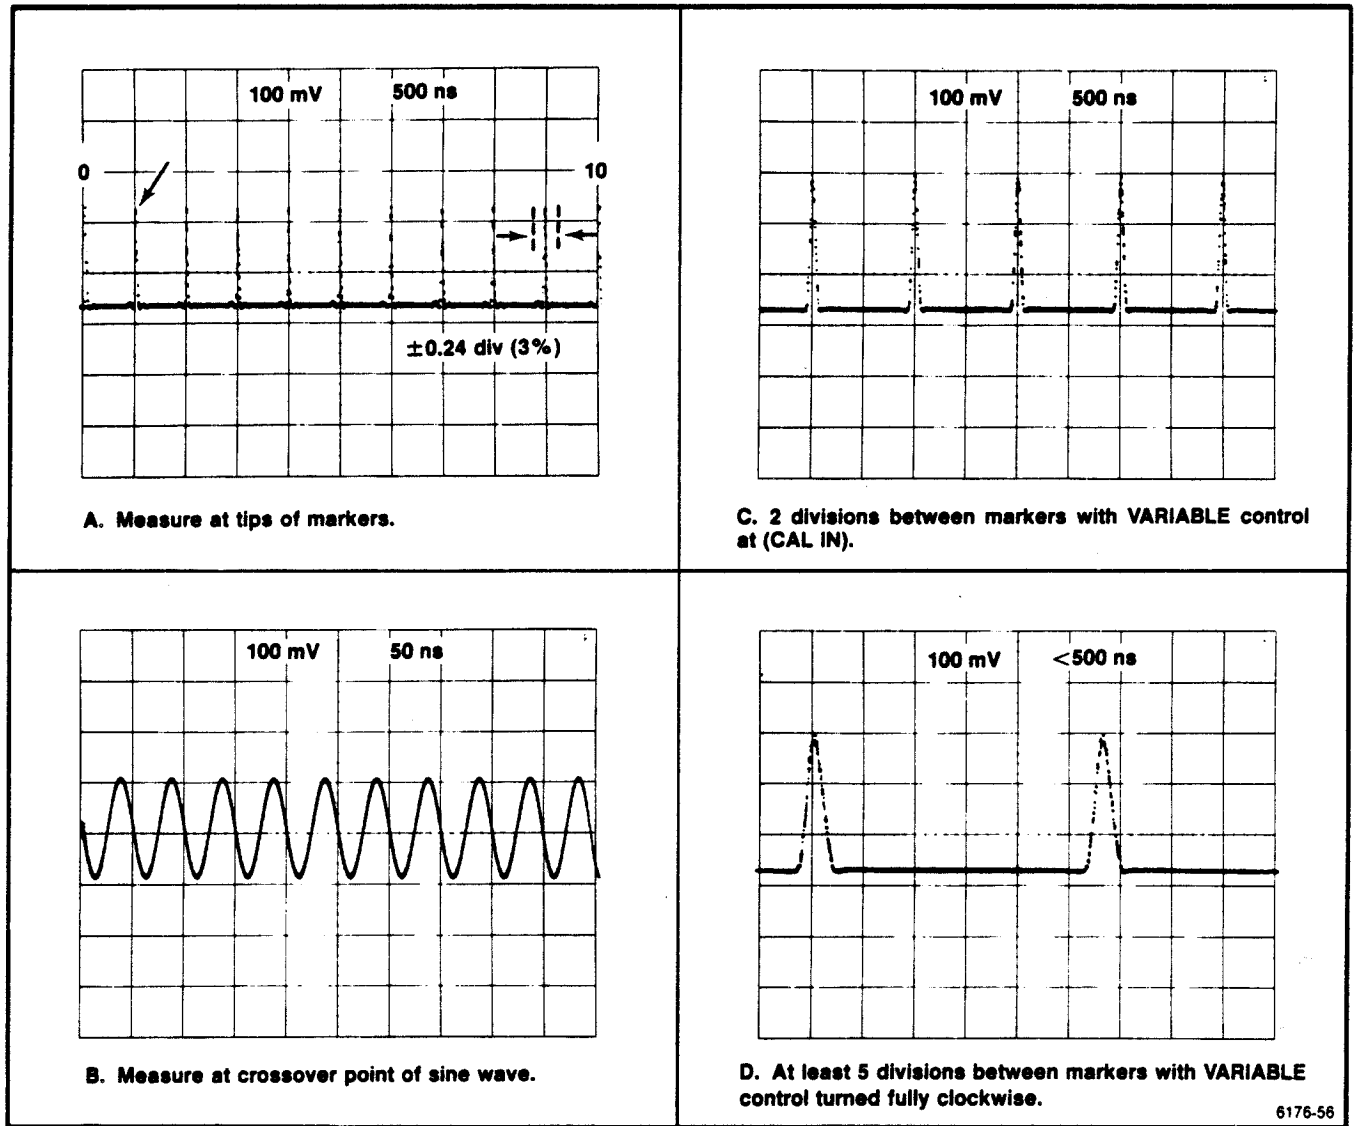

Figure 5-1. Typical displays for checking timing accuracy.
d. **CHECK**—the display for one time mark per division + or -3%. See Figure 5-1 for typical timing displays.
i. **CHECK**—for the distance between time marks to increase as the VARIABLE control is rotated clockwise and for the distance to increase at least 2.5 times the calibrated value when the control is at full clockwise (see Figure 5-1).